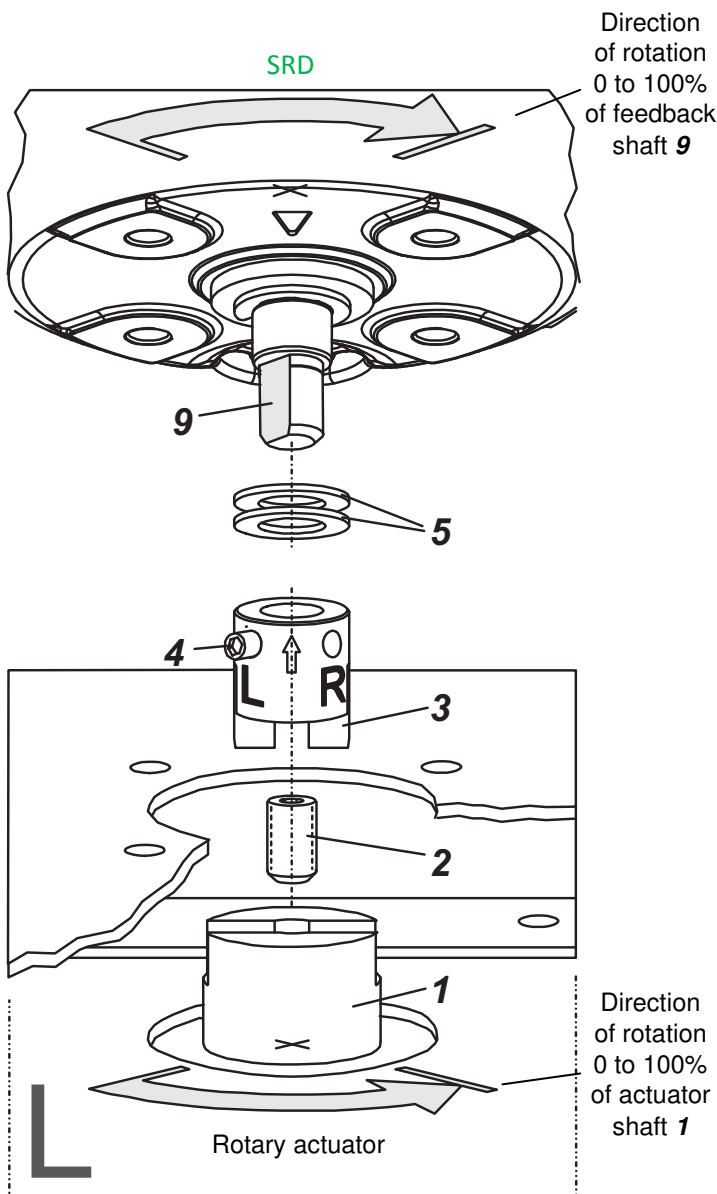

Figure 27: Mounting if actuator is left-rotating
- For attachment to a counter-clockwise or left turning actuator secure the stud screw **4** in the threaded hole “L” of the rotary adaptor; hole “R” remains open. See Fig. 27.
Finally turn the feedback shaft in such a way that the arrow of the coupling points to the arrow of the SRD housing. Beginning and end positions of the actuator drive shaft **1** and feedback shaft **9** are marked in figure 27 (left-rotating actuator) and in figure 28 (right-rotating actuator) by arrows for the respective direction of rotation. The feedback shaft is now in the normal position corresponding to the failsafe position of the actuator.